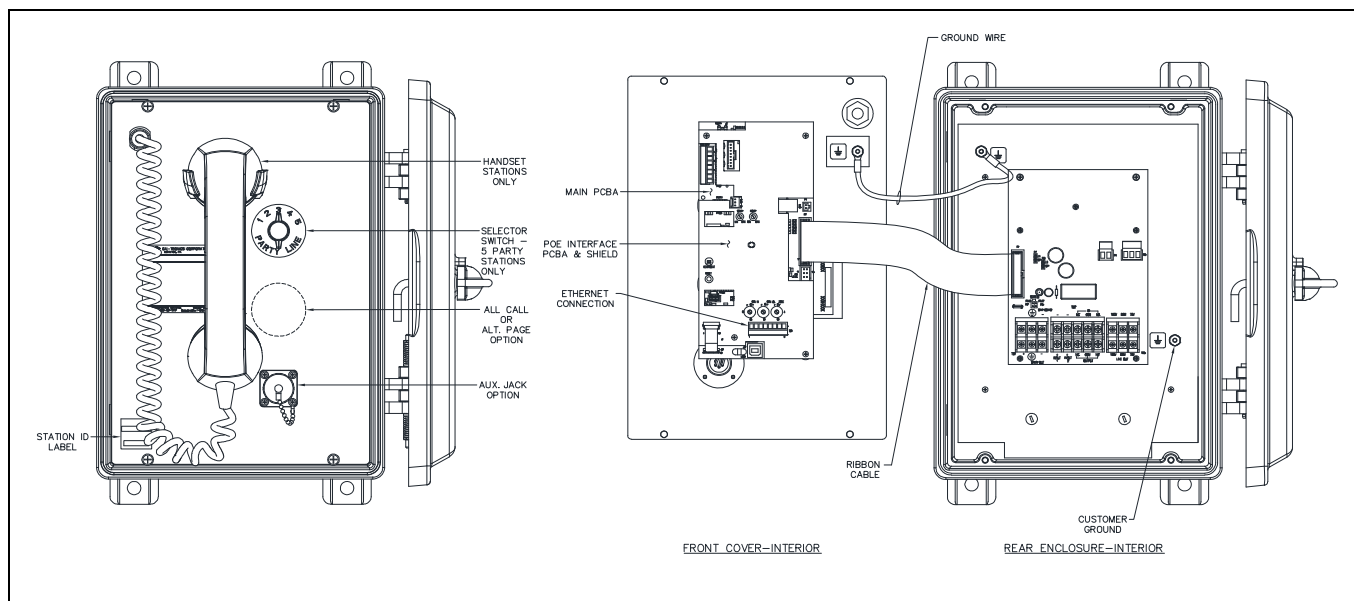

Figure 1. HUBBCOM PoE Weatherproof Handset/Speaker Amplifier Station
This guide covers the installation of HUBBCOM™ PoE weatherproof handset/speaker amplifier stations (see Figure 1). Refer to Publication 42004-789 for detailed explanations of available configuration options and adjustments, system specifications, and warranty information. GAI-Tronics' product documentation is on the GAI-Tronics website at <https://www.gai-tronics.com>.
2. Secure it to the ground terminal located in the lower right corner at the back of the rear enclosure (see Figure 1).